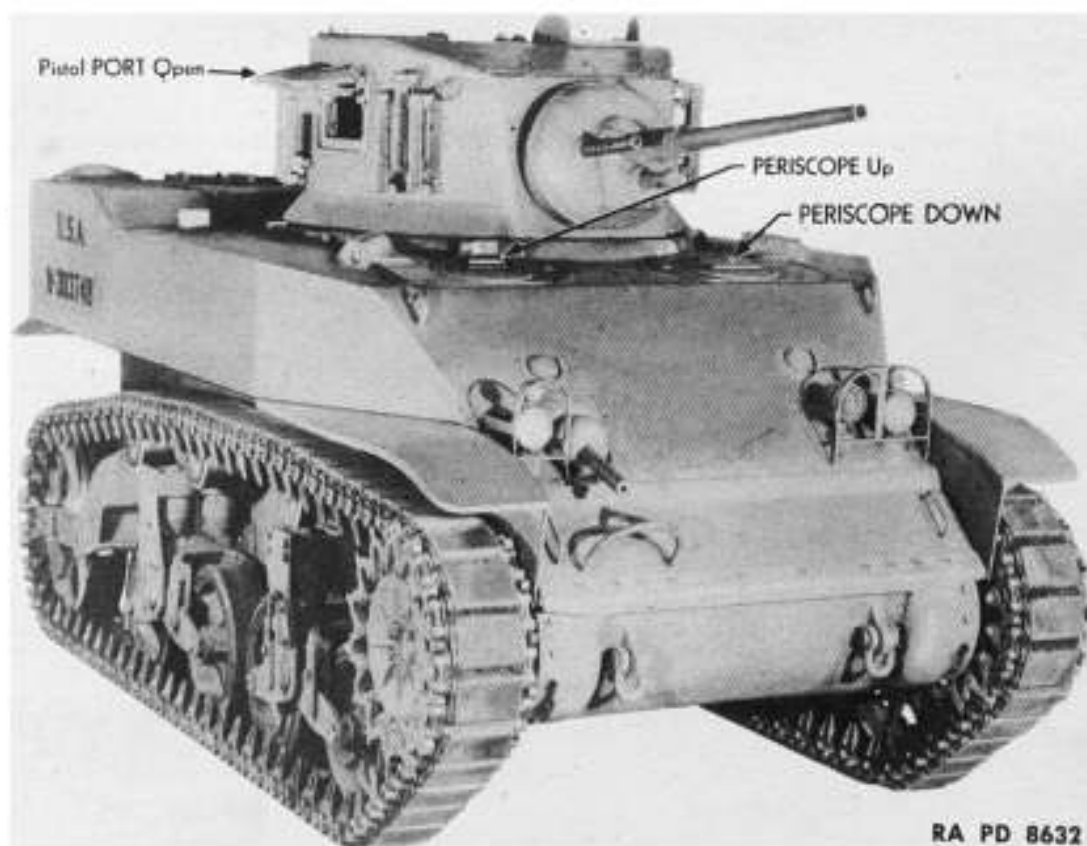
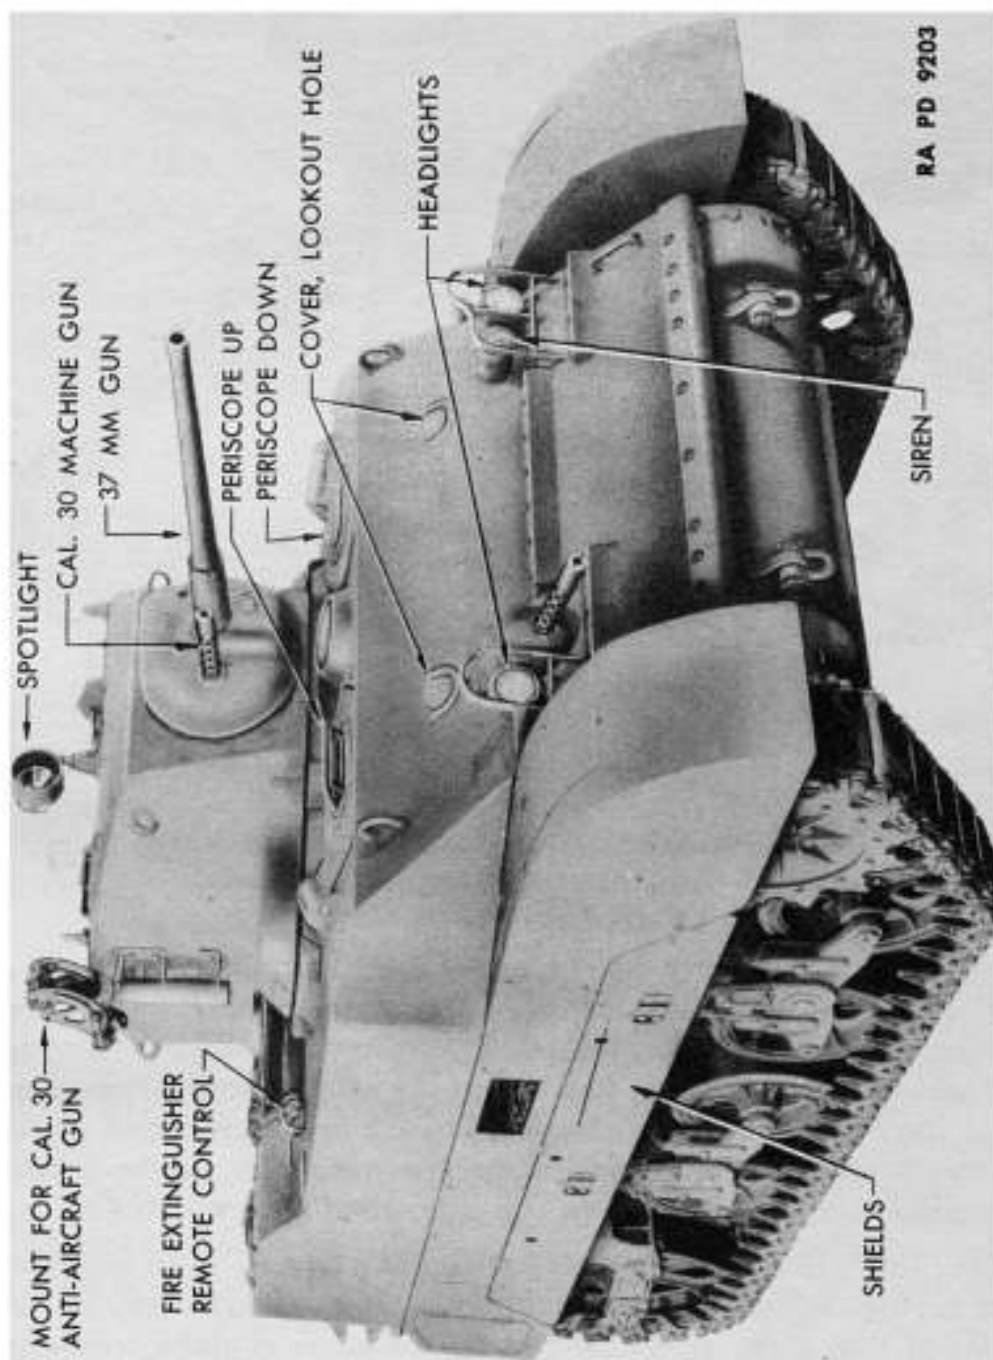

Figure 1—Light Tank M5—Right Front View
Figure 2—Light Tank M5A1—Right Front View
a. The Light Tank M5 (fig. 1) and Light Tank M5A1 (fig. 2), are armored, full track-laying combat vehicles, each carrying a crew of four men. They are each powered by two liquid-cooled, 90-degree, V-type, eight-cylinder engines, located in the engine compartment in the rear of the hull. Power is transmitted to the final drives and tracks through two Hydra-Matic transmissions, two propeller shafts, a two-speed, step-down transfer unit, and the controlled differential (fig. 4).